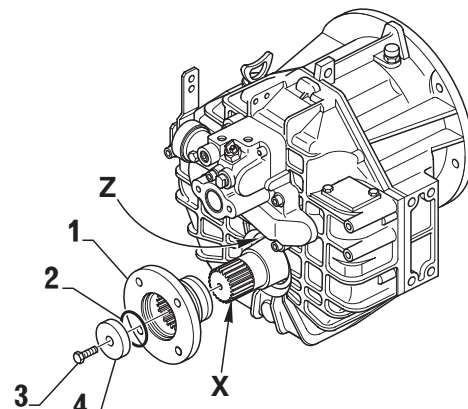

FIG. 8-1
Provide spline (X) of output shaft with a thin coat of Loctite 245 and sealing lip (Z) of shaft seal with a thin coat of ATF fluid. (Fig. 8-1)
Fit output flange (item 1, Fig. 8-1).
Provide O-ring (item 2, Fig. 8-1) with ATF fluid and insert into output flange.
Tight output flange down on output shaft with bolt (item 3, Fig 8-1) and washer (4).